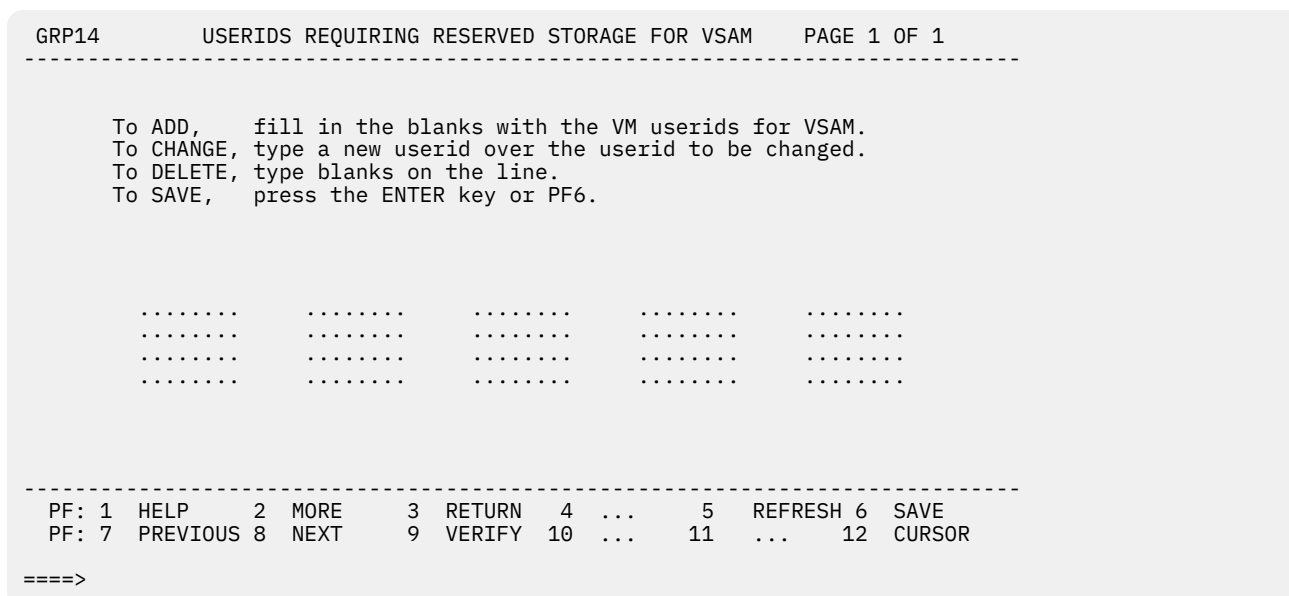

Figure 21. GROUP User IDs Requiring Reserved Storage for VSAM Panel
- User IDs Requiring Reserved Storage for VSAM (Figure 21 on page 105).